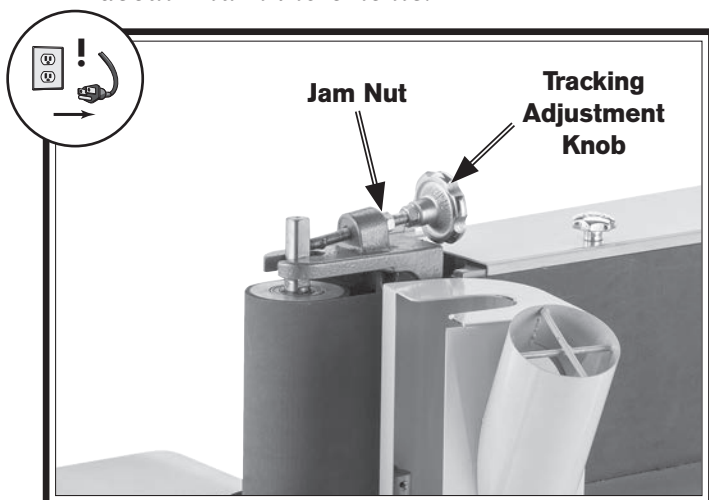

Figure 35. Belt tracking components.
5. Loosen jam nut shown in **Figure 35**.
6. Turn tracking adjustment knob counterclockwise to adjust tracking upward or clockwise to adjust tracking downward (see **Figure 35**).